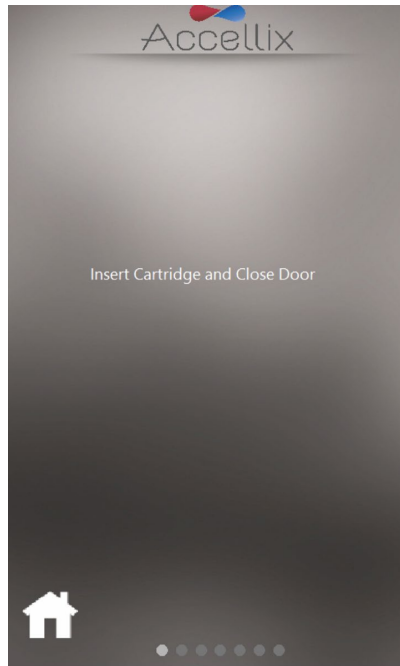

Figure 39: Insert Cartridge screen
**Note:** From this point forward, the highlighted gray dot at the bottom of the screen shows the current stage of the assay run. (See Figure 39 Insert Cartridge screen).
4. When prompted by the instrument (Figure 39), open the door by pressing down on the front right-hand indent corner of the door and releasing. Next, insert the cartridge into the instrument by pushing it down using the top handle. Once the cartridge is inserted, push the handle on the right-hand side a bit more until a click is heard and felt, ensuring that the cartridge has been inserted fully into the instrument Cartridge Handling Unit (CHU).